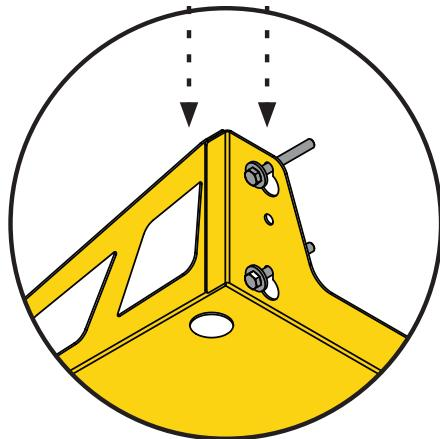

FIG. 8
- 8 Lift the Wall Bracket (F) up and over the fasteners so that the washer is on the inside of the bracket. Slide the Wall Bracket (F) down so that the fastener is snugly inside the smaller section of each keyhole [FIG. 8].